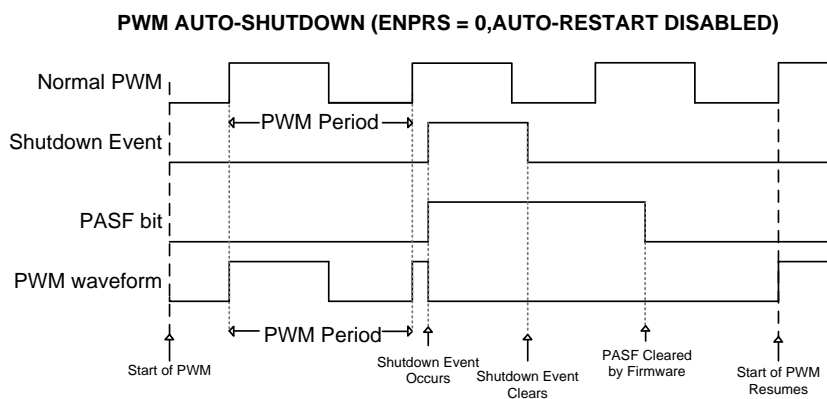

Figure 14-5 (b) PWM Auto Shutoff Event (ENPRS=0)
After start, if auto shutoff trigger event is established, PWMx pin will accord with pin controller, PASF[0] configuration, as shown in Figure 14-5.
- Configure ENPRS[0] as <1>, after auto shutoff trigger event established, hardware will place PASF[0] as <1> and place PASF[0] as <0> later. Configure ENPRS[0] as <0>, after auto shutoff trigger event established, hardware will place PASF[0] as <1> and later, user may configure PASF[0] as <0>²⁴ through software, as Figure 14-5 illustrates.
pinout will change from auto shutoff pinout definition to PWM regular modulation in next period, as Figure 14-5.